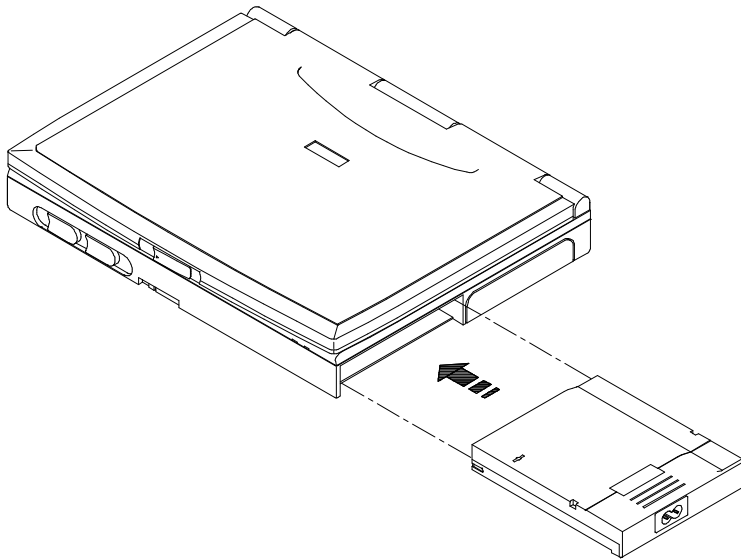

Figure 5-4: Inserting the AC Adapter into bay 2
The notebook can be run off AC power by inserting the AC Adapter into bay 2 of the notebook. Bay 2 is the bay in which the FDD module is located. **Figure 5-4** illustrates this connection. In the internal connection mode, as long as the AC Adapter continues to receive current from an electrical outlet, the battery in bay 1 will be charged
3. After you have removed the FDD from bay 2, insert the AC Adapter into the port. The bottom side should be facing down when the AC Adapter is inserted. Please refer to *Figure 5-4*.